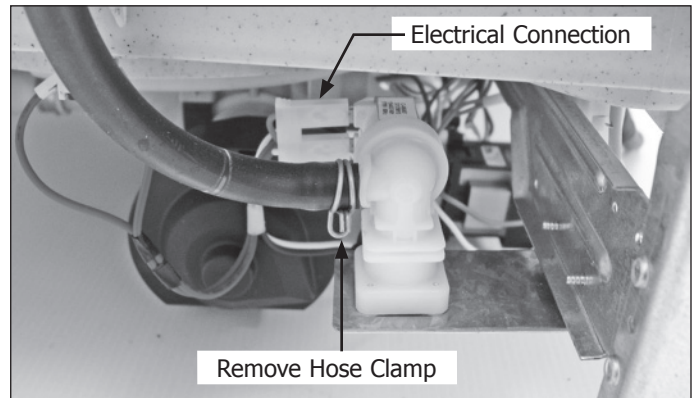

Figure 4-25.
6. Disconnect wire leads from water valve terminals. (See Figure 4-25)
7. Remove hose clamp from outlet hose, then remove hose from water valve outlet. (See Figure 4-25)